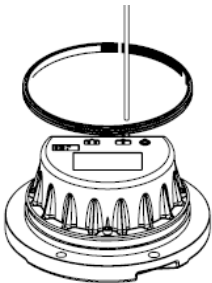

Figure 5-16
- Replace the lighting fixture gasket outside the inner cover: Take down the lighting fixture gasket outside the inner cover and carefully clean the seal groove. Load the new gasket to the correct working position on the inner cover. Please note that the gasket shall not be bent (Figure 5-16).